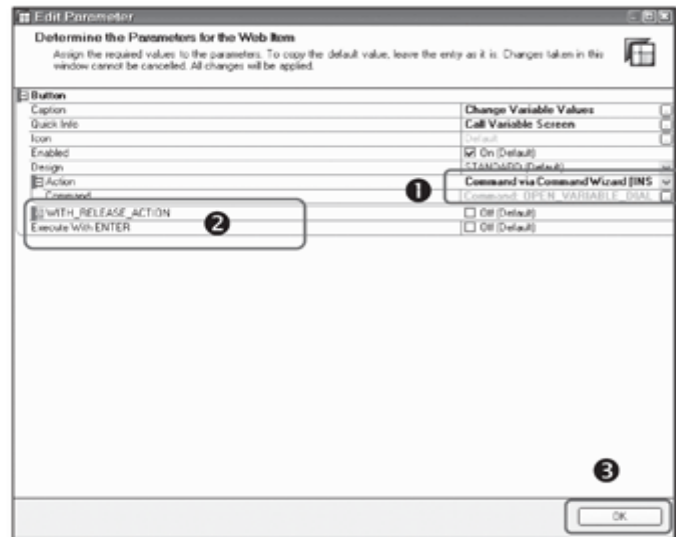

Figure 11.14 Complete Button Settings
You can also add more than one command to the same button so that a sequence of commands is executed when the button is clicked. Click on the Next Command button (6) to add new commands to the button. When finished, click on OK (7), and return to the button definition screen (see Figure 11.14).
The selected command is now linked to a button (see 1 of Figure 11.14). If you want a specific command to be executed when the user presses the Enter key, then check the setting Execute with ENTER in the button configuration (2).